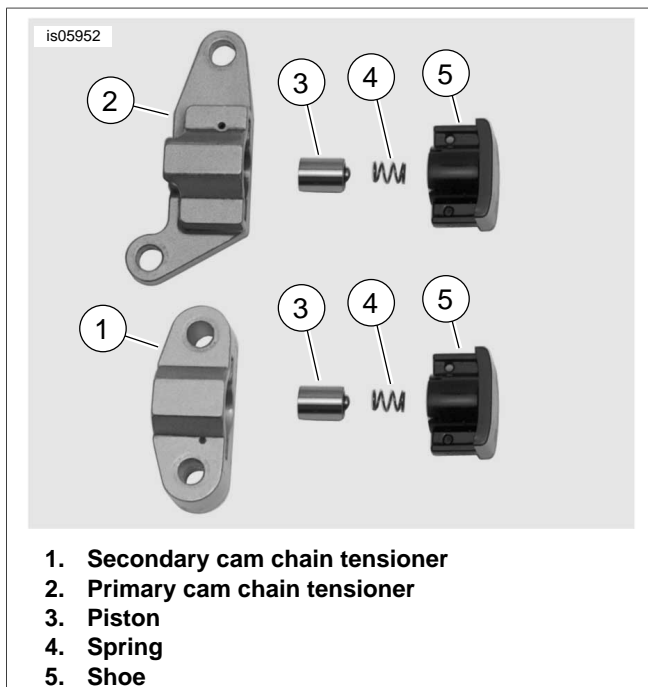

Figure 6. Primary and Secondary Cam Chain Tensioners
17. See Figure 6. Be sure the primary and secondary cam chain tensioners are assembled as shown. If assembled incorrectly, the tensioners will not function properly. Install the secondary cam chain tensioner. Tighten the fasteners to 90-120 **in-lbs** (10.2-13.6 Nm). Remove the locking clip from the tensioner.